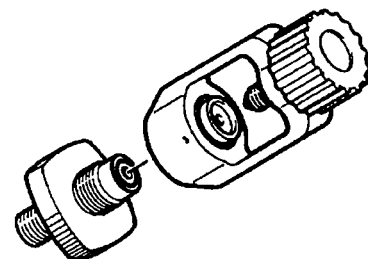

Fig. 8 International filling connector
- Air bottles with international filling connector can be connected with filling adaptor (part no. 79375) to the German filling connector (see Fig. 8).